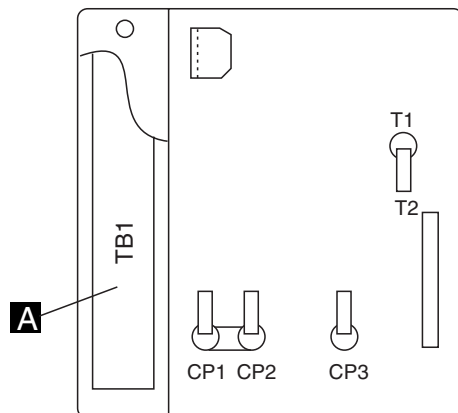

Figure 4-109. Phases
4. **Check** for power not present at PS type 6 TB1-6, 10, and 14, **A** with a CE meter, using the ground as reference, see Figure 4-109.